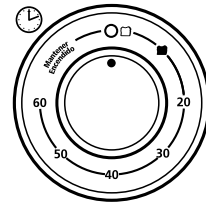

Figure 3
3. **Timer Selector Knob** – Allows to adjust the dial to the desired time for up to 60 minutes. Oven will automatically shut off when cooking is completed. (See Figure 3)